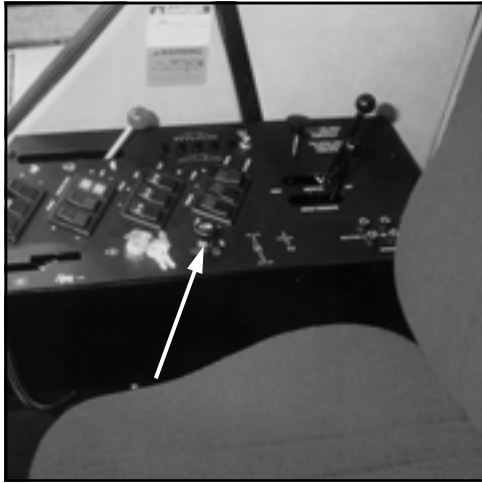

FIG 5.54
**CAB LIGHTS** – The front of the cab houses four halogen field lamps (fig. 5.57) and the rear houses two halogen work lamps (fig. 5.56). Locate the light switch on the console panel (fig. 5.54). Rotating the switch clockwise to the first “ON” position (fig. 5.55B) will activate two of the front cab lights. Rotating the switch clockwise to the second “ON” position (fig. 5.55C) will activate the other two front cab lights in addition to the two rear cab lights.